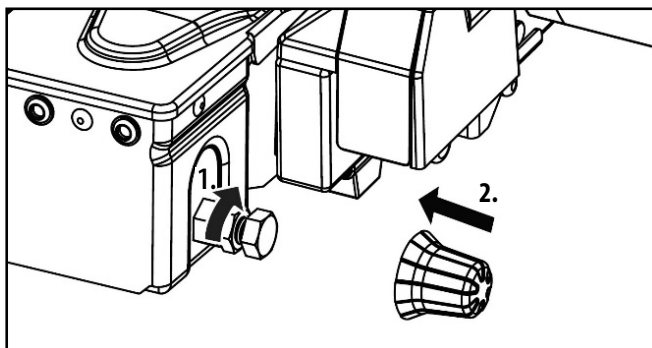

Figure 14: Adjusting the quick-release fastener
- Tighten the lock nut (Fig. 14).